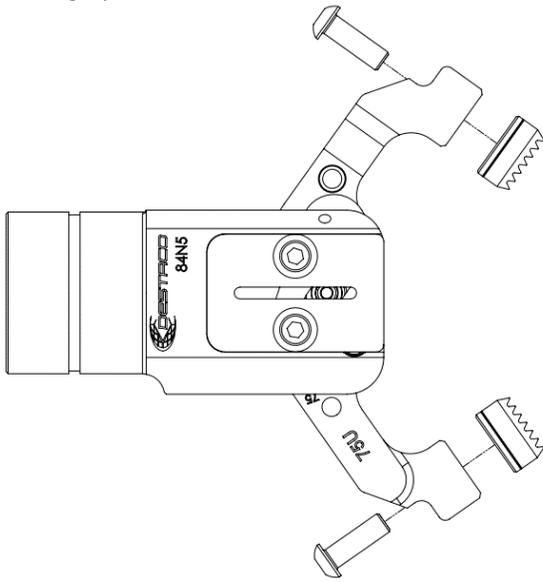

Fig.7
2. Remove the tips from upper and lower jaw as per the steps under **tip replacement** (see Fig.7).